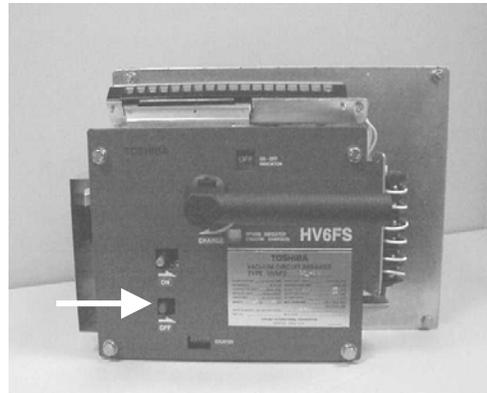

Fig. 25 Manually Opening Breaker
1. Push the trip lever in the direction of the arrow (Fig. 25).